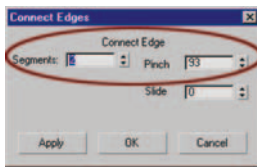
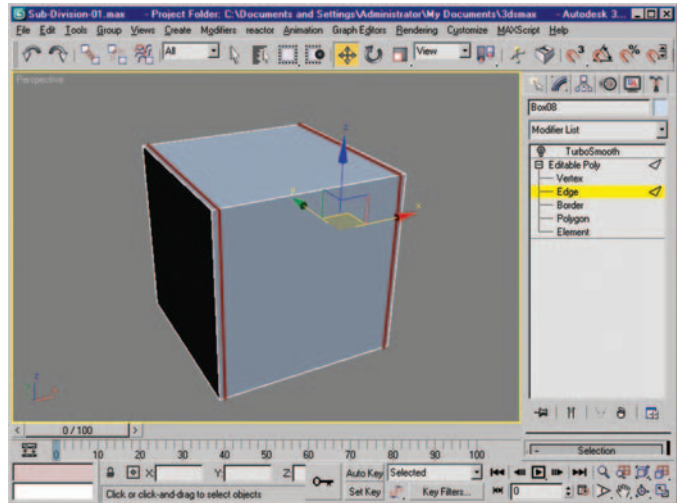

Figure 6.12 Connect
Figure 6.13 New edges created with Connect Edges dialog.
8. A dialog box will pop up. For the Segments value I put a value of 2, and for the Pinch value 93. Figure 6.12 shows the settings I used for this example. Figure 6.13 shows the impact of this action on our base box mesh.